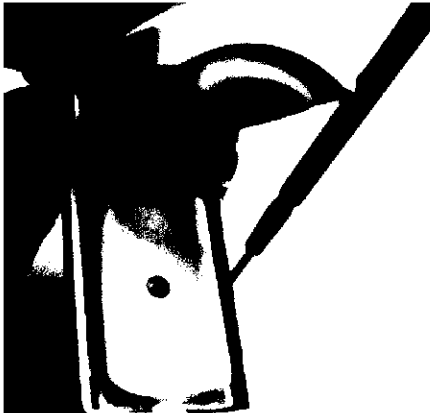
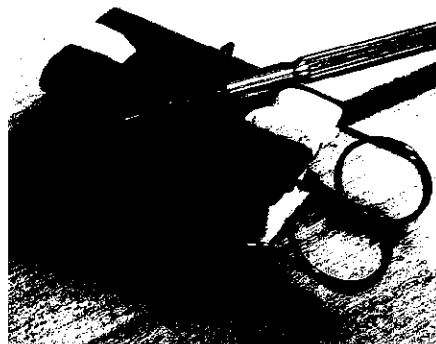
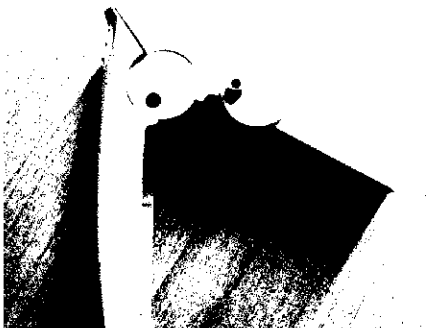

Fig 1.1
Fig 1.2
Fig 1.3
1. With the cable cut off to the strain relief, remove the pads from the shells using a small jewel screwdriver (Fig 1.1). Remove the spring from around the pads (Fig 1.2). Remove the two side buttons and separate the shells (Fig 1.3 & 1.4). Thoroughly clean all parts that are to be re-used, with isopropyl alcohol.